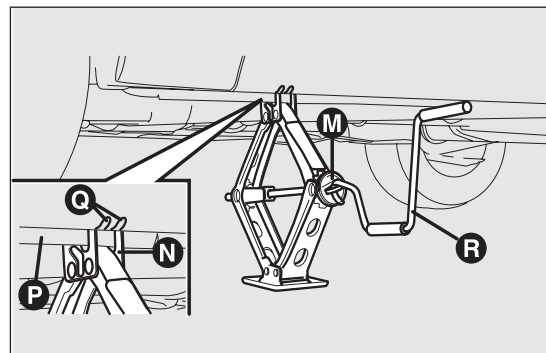

fig. I45
- ❑ operate device M fig. I45 so as to extend the jack, until groove N on the upper part of the jack fits correctly into the lower profile P visible on the car body next to the indication Q (at approx. 72 cm from the centre of the front wheel or 75 cm from the centre of the rear wheel);